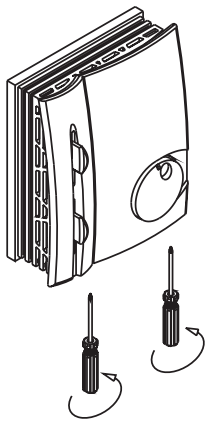

Figure 9
- Attach the screws again at the bottom of the cover and tighten into place as shown in Figure 9.